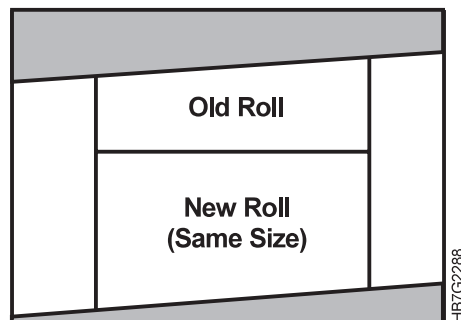

Figure 247. Aligning New Paper Roll with Old Paper Roll
2. Align the left edge of the new paper with the left edge of the paper on the web, as shown in Figure 247.